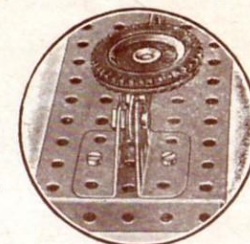

Fig. O.20a
The  $5\frac{1}{2}$ " Strip (4) is held on a  $\frac{3}{8}$ " Bolt between two Trunnions as shown in the inset, Fig. O.20a.